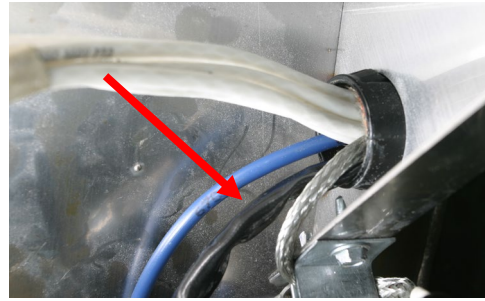

Figure 9: Route the wiring along the element wiring and through the grommet in the element bracket assembly as shown above (See arrow).
4. Route the wire through the grommet in the element bracket assembly as shown in **Figure 9**.